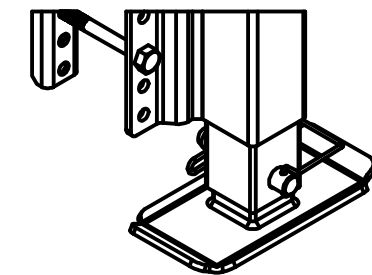

FIGURE 6:
4. Before towing the trailer, be certain the jack is fully raised, and Drop Leg is in stowed position to give maximum road clearance (See Figure 6).